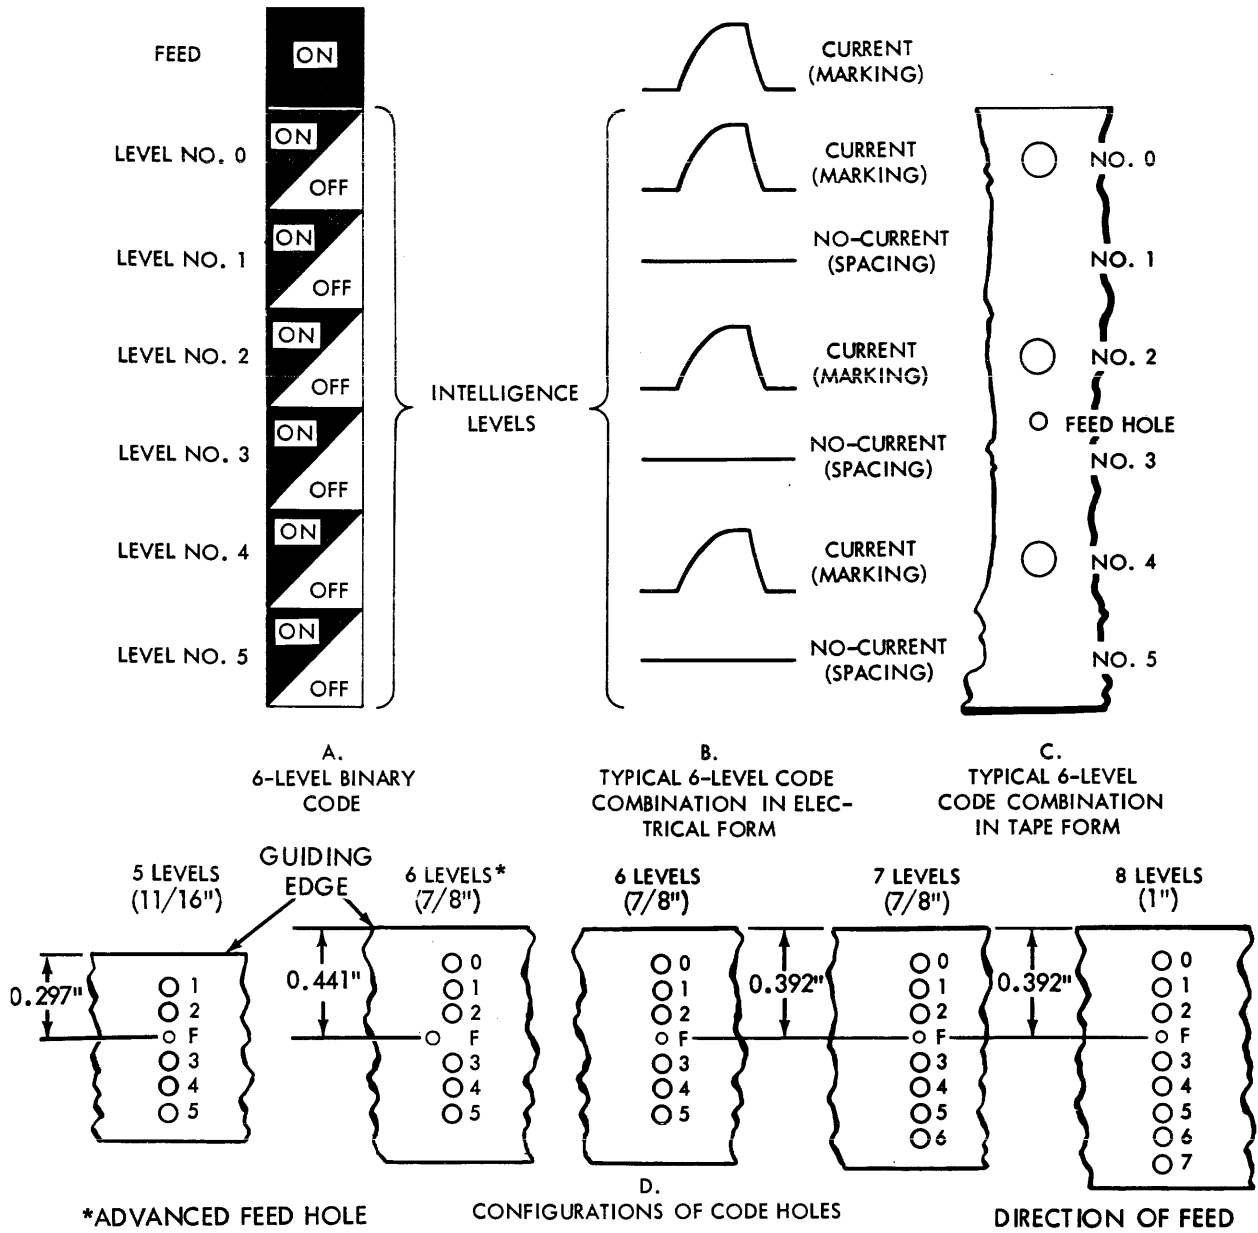

Figure 2 - Code Illustrations
2.05 With the appropriate punch block assembly and associated parts selected and installed, the punch unit is capable of punching either 11/16 inch, 7/8 inch, or 1 inch tape (Figure 2). Tape guide channels can be provided to align any of these tape widths.